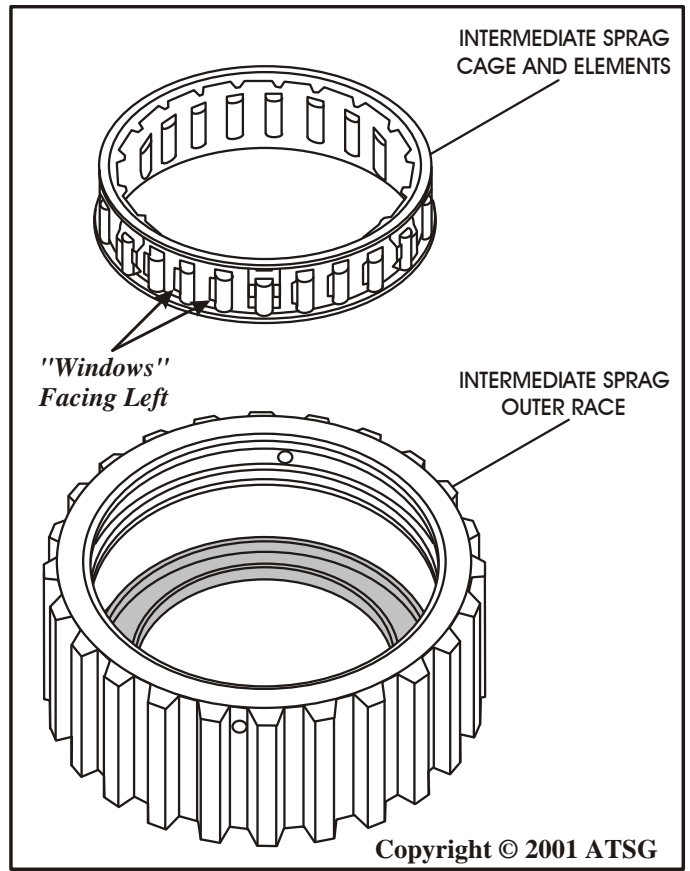

Figure 106
7. Install the intermediate sprag cage and element assembly into the outer race, with "Windows" *facing to the left*, as shown in Figure 106.
CAUTION: *The "Windows" must face in the direction shown in Figure 106, for sprag rotation to be correct.*